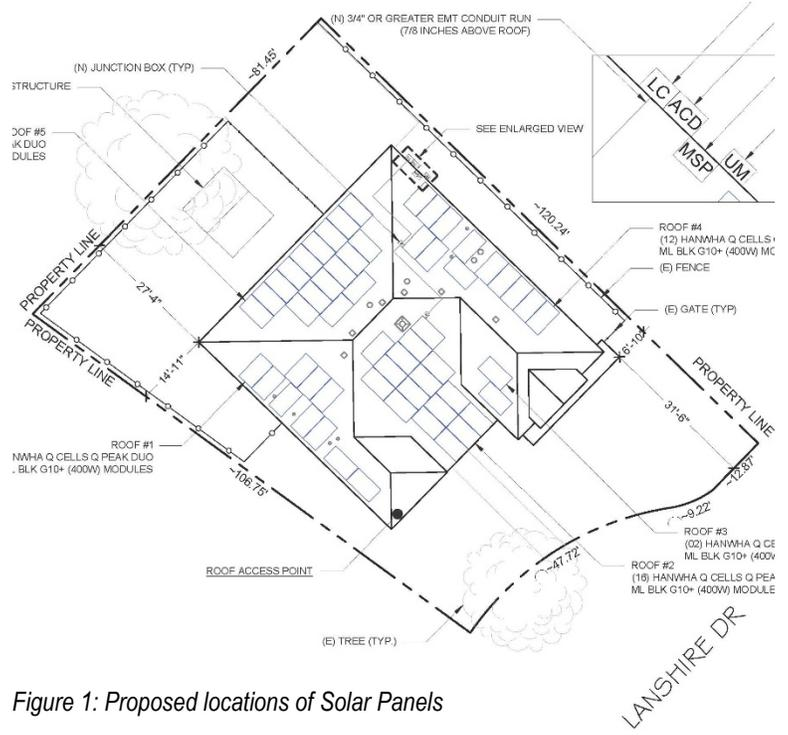

Figure 1: Proposed locations of Solar Panels
The applicant's request appears to be in conformance with the majority of the City's requirements regarding *Solar Energy Collector Panels and Systems* however, the Unified Development Code (UDC) does not provide many regulations regarding this land use other than roof square footage. Staff is of the opinion that the original intent for these regulations was to limit visibility of the solar panels from public rights-of-way and adjacent properties. For the purpose of comparing the proposed solar panels for the subject to the solar panels constructed on existing single-family housing located adjacent to or in the vicinity of the *subject property*, staff has provided photos and an analysis of properties on Brookshore, Burkwood, Haven Ridge, Mapleridge, Rutherford, Pendleton, and Sycamore Drives below. Through the process of analyzing the adjacent properties, staff found that a majority of the solar panels surface area is less than 1,000 SF with the exception of one (1) property, which approved in 2018 with 1,025 SF of coverage at 140 Brookshore Drive. Staff also observed that the majority of the solar panels on these properties were installed on the side or rear of the roofs with the exception of three (3) homes which utilized the front part of the roof. In this case, the applicant is proposing 18 solar panels in the front part of the house, which may be visible from Lanshire Drive as shown in *Figure 1*. With all this being said the approval of a Specific Use Permit (SUP) and the operational conditions contained in the Specific Use Permit (SUP) ordinance are a discretionary decision for the City Council.